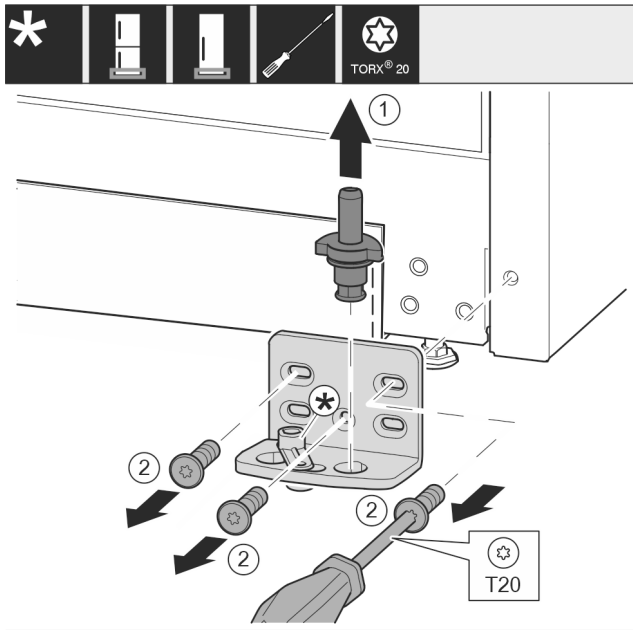

Fig. 17 *
- ▶ Pull the bearing bolt Fig. 17 (1) out upwards completely.*
- ▶ Use screwdriver to unscrew the screws Fig. 17 (2) and remove the swap bearing block.*